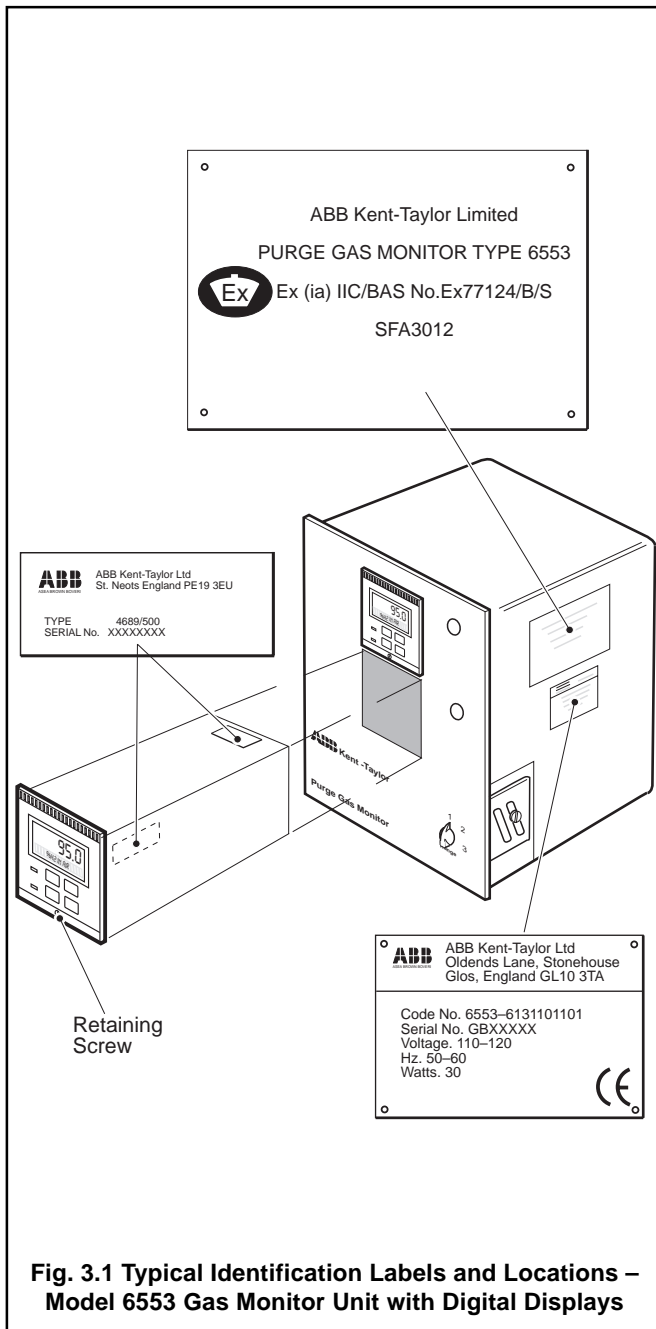

Fig. 3.1 Typical Identification Labels and Locations – Model 6553 Gas Monitor Unit with Digital Displays
3.1.1 Model 6553 Monitor Unit – Fig. 3.1
The identification and certification labels are fixed to the outside of the monitor case as shown in Fig. 3.1. The precise interpretation of the identification code gives information on the 6553 system as shown in Section 3.1.5.
Note. Although the display units may be marked as ABB Kent-Taylor 4600 on their front panels, they are special units for this monitor and a standard Model 4600 cannot be used. The precise identity of the display unit is given on the identification label shown in Fig. 3.1.